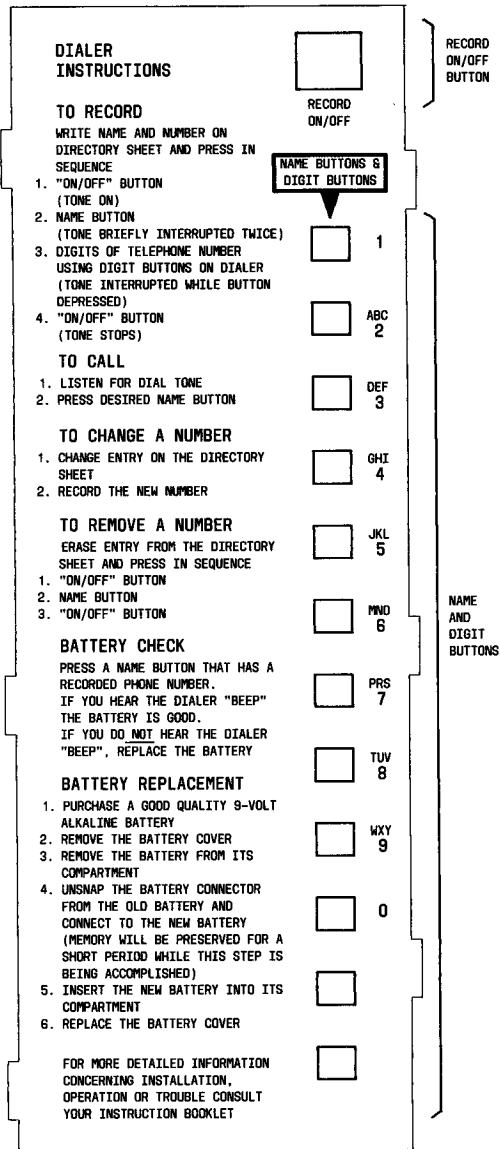

Fig. 7—Instruction Label
- (3) Momentarily depress the RECORD ON/OFF button (Fig. 7). (A constant tone will be heard.)
- (4) Momentarily depress the memory button adjacent to the desired name listed on the directory sheet. (A double interrupt of the tone will be heard.)
- (5) Manually dial the desired telephone number using the digit designations to the right of the memory buttons on adjunct dial. (The tone will interrupt momentarily as each digit is recorded.) A total of 16-digits can be recorded. If 16-digits are recorded the dial will beep three (3) times and automatically end the recording procedure.
5.02 The battery is to be replaced by the customer. Refer to instruction label (Fig. 7) or Customer Instruction Booklet (CIB) for detailed battery testing and replacement procedures.